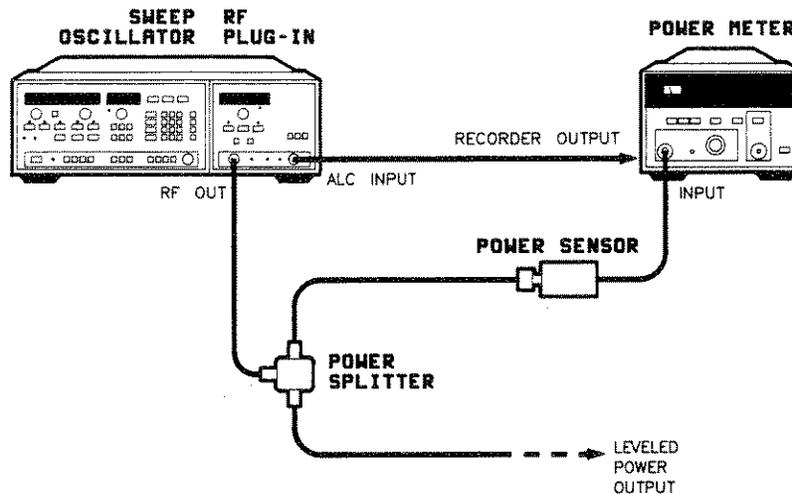

Figure 3-11. External Power Meter Leveling Set Up
2. Zero and calibrate the power meter/sensor. Connect the equipment as shown in figure 3-11. Temporarily connect a 50 Ω load or a 10 dB attenuator to the remaining power splitter output.
To use leveled RF output power to test external equipment, make the connection at the point marked **LEVELED POWER OUTPUT** in figure 3-11.